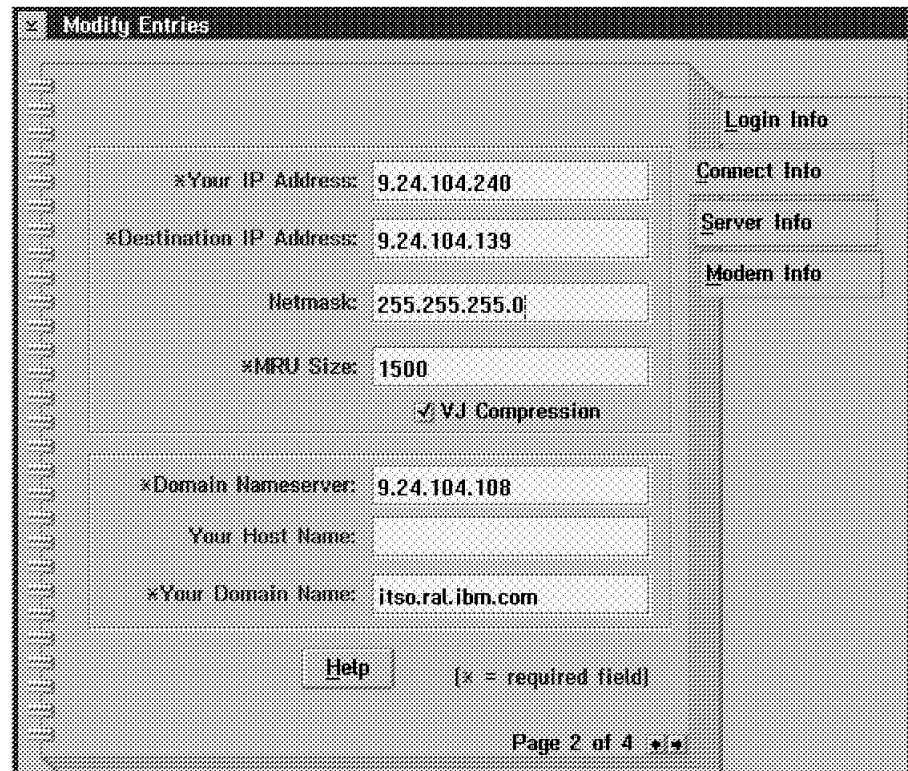

Figure 345. IBM Dial-Up for TCP/IP OS/2 - Connect Info Panel
- Another panel then appears as shown in Figure 345.